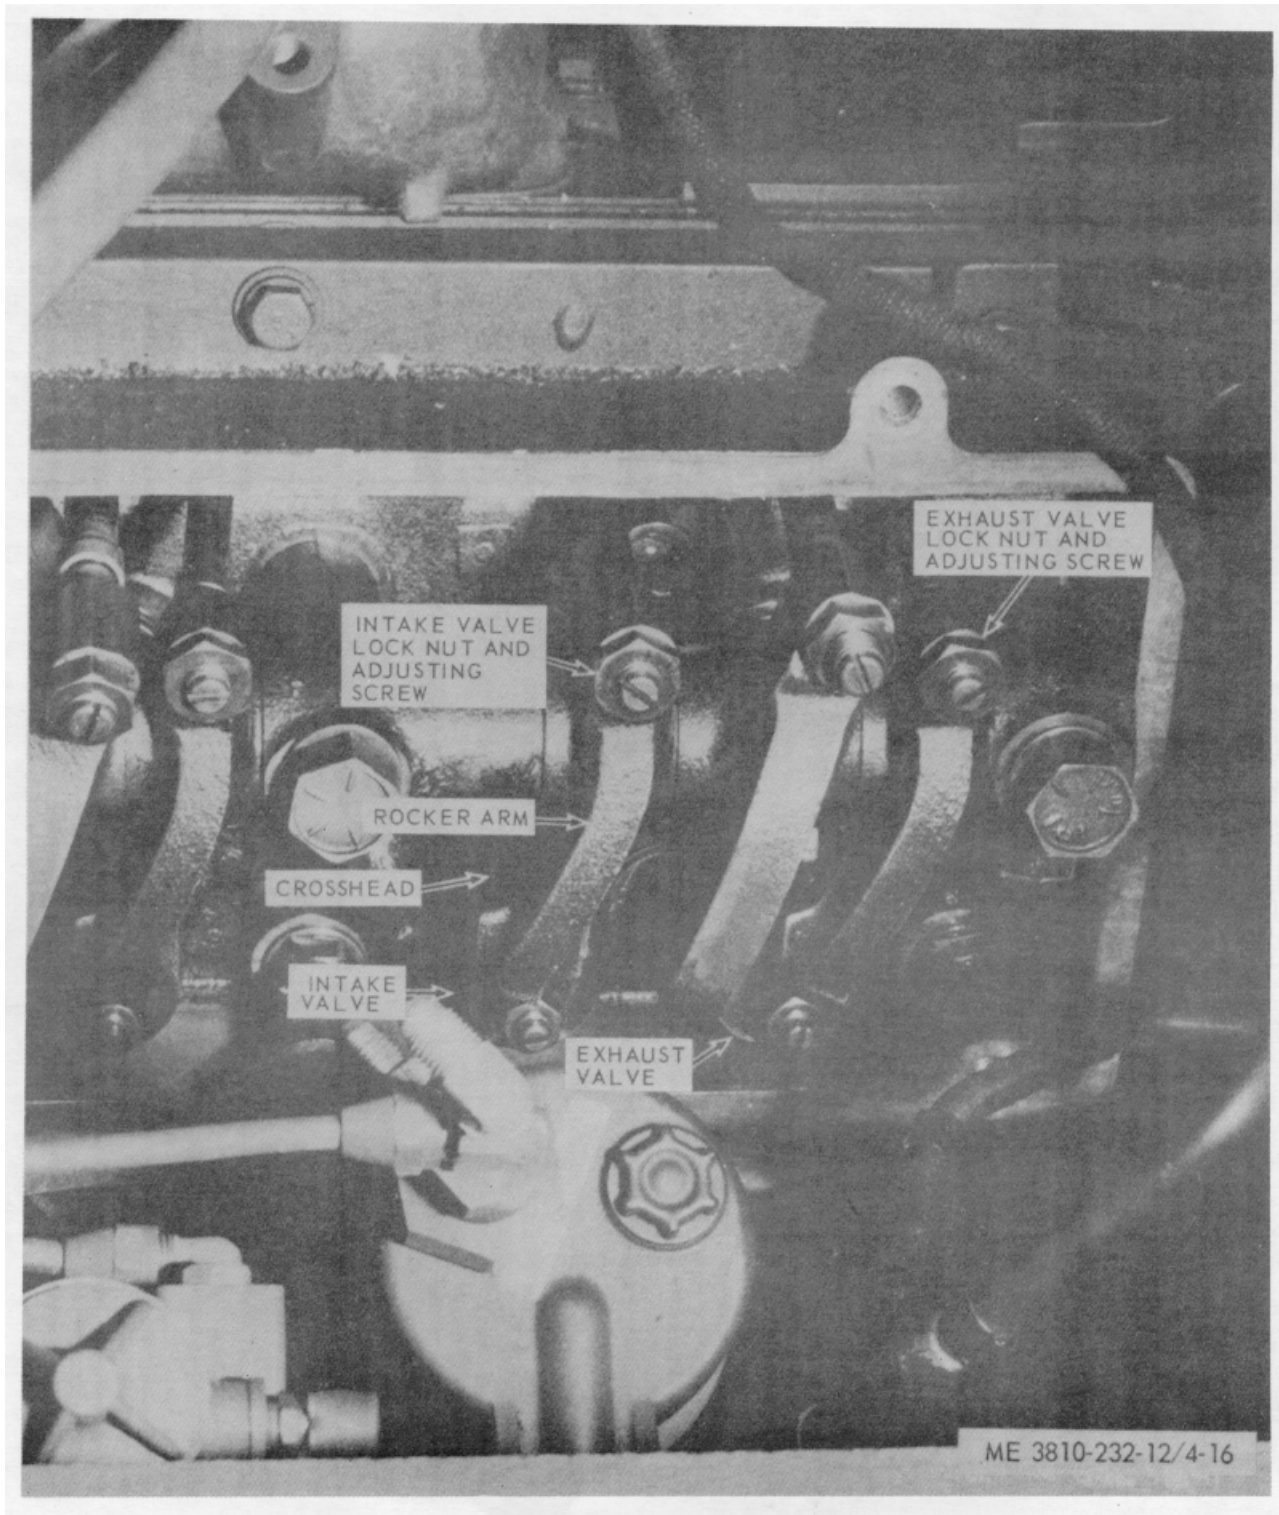

Figure 4-16. Carrier engine valve adjustment.
(1) Loosen intake valve locknut, illustrated in figure 4-16, and turn adjusting screw to obtain clearance of 0.016 inch (cold) or 0.014 inch (hot) between rocker arm and top of crosshead.
(2) Tighten locknut.
(3) Loosen exhaust valve locknut, and turn adjusting screw to obtain clearance of 0.029 inch (cold),